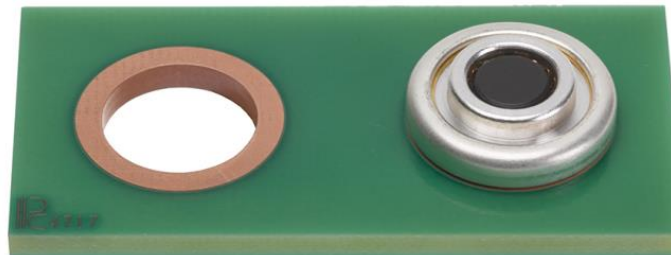

Figure 1
5. Lightly hand or pick and place the Centrality socket into center of above verified hole making sure to not press the solder out of the way (see Figure 1 for reference)